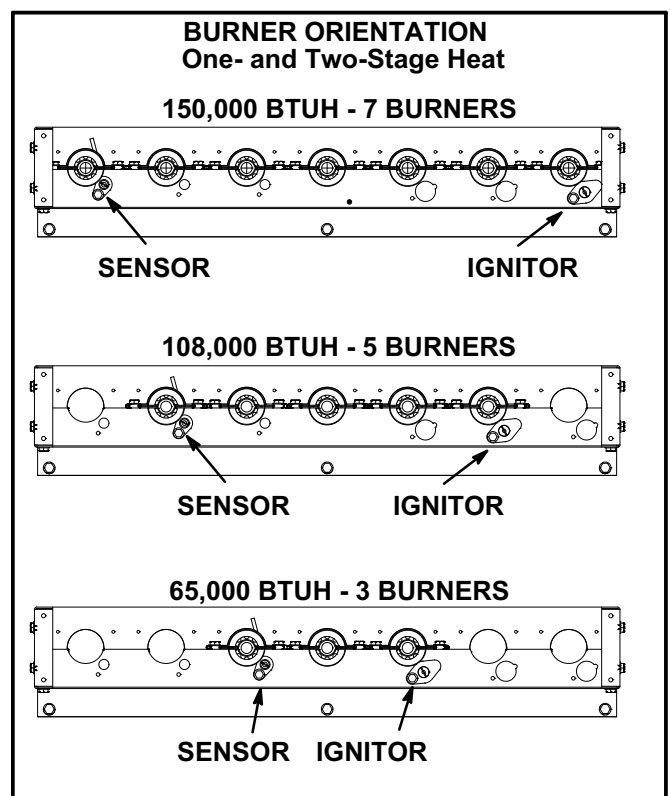

FIGURE 35
- 6- Replace burners and screws securing burner. See figure 35 or 36.